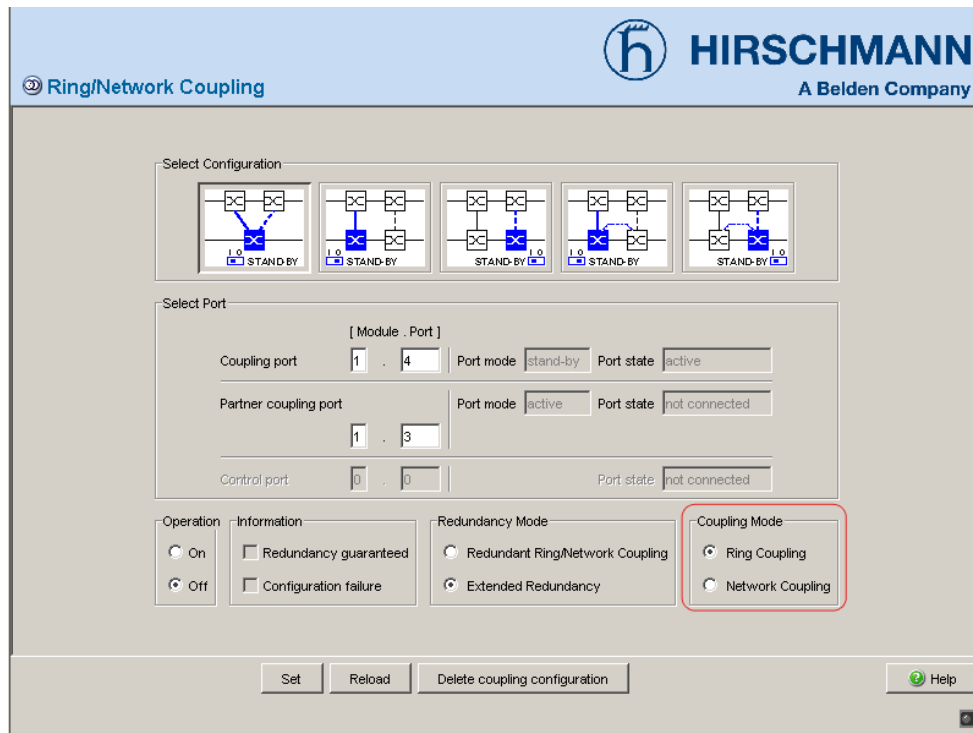

Figure 12: Selecting the coupling mode
- ☐ In the “Coupling Mode” frame, select (see fig. 12)